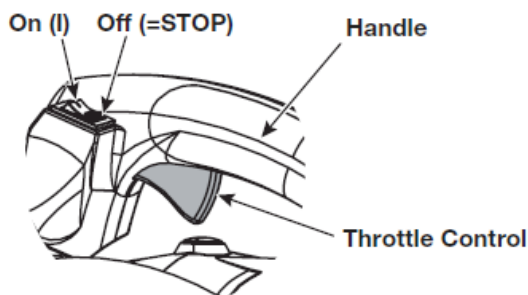

Fig. 9
**Note:** There is no need to turn the unit on. The On/Off switch is in the ON ( I ) position at all times (Fig. 9).